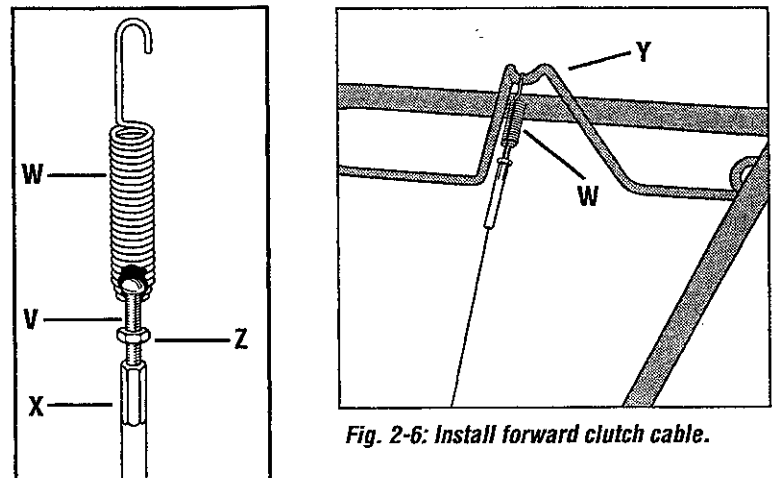

Fig. 2-5: Assemble spring and adjuster.
1	Spring, cable (see W, Fig. 2-5, page 8)
3. Insert the #10-24 x 2" slotted hd. screw (V, Fig. 2-5) into the cable spring (W) until the screw threads extend through the spring.
4. Thread the #10-24 hex nut (Z, Fig. 2-5) halfway onto the screw (V).
5. Thread the screw into the cable adjuster (X).